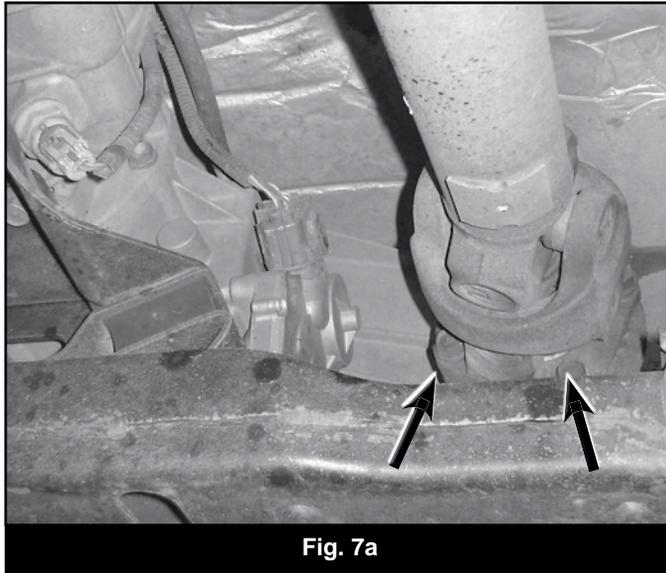

Fig. 7a
13. Remove the 4 bolts that attach the front driveshaft to the transfer case. (Fig 7a, 7b)